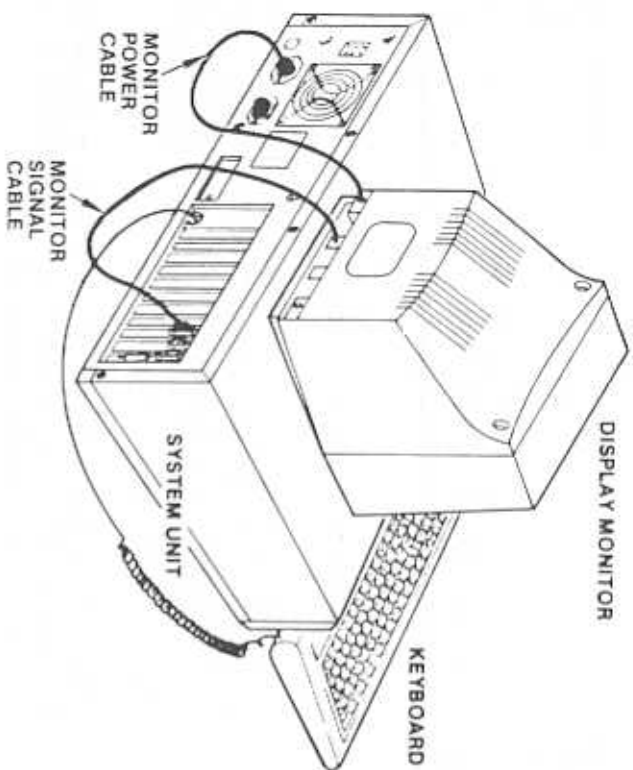

Figure 3-16. Connecting the Display Monitor to the System Unit
2. Connect the power cable from the display monitor to the rear of the system unit, as shown in Figure 3-16. If the monitor does not have a power on/off switch or if the switch is left in the on position, the monitor automatically turns on and off when you turn the system unit on and off.
3. Plug the signal cable from the display monitor (the one with the 9-pin, D-shaped plug) into the connector on the system unit, as shown in Figure 3-16. The exact location of the connector depends on where the monitor controller board is installed.